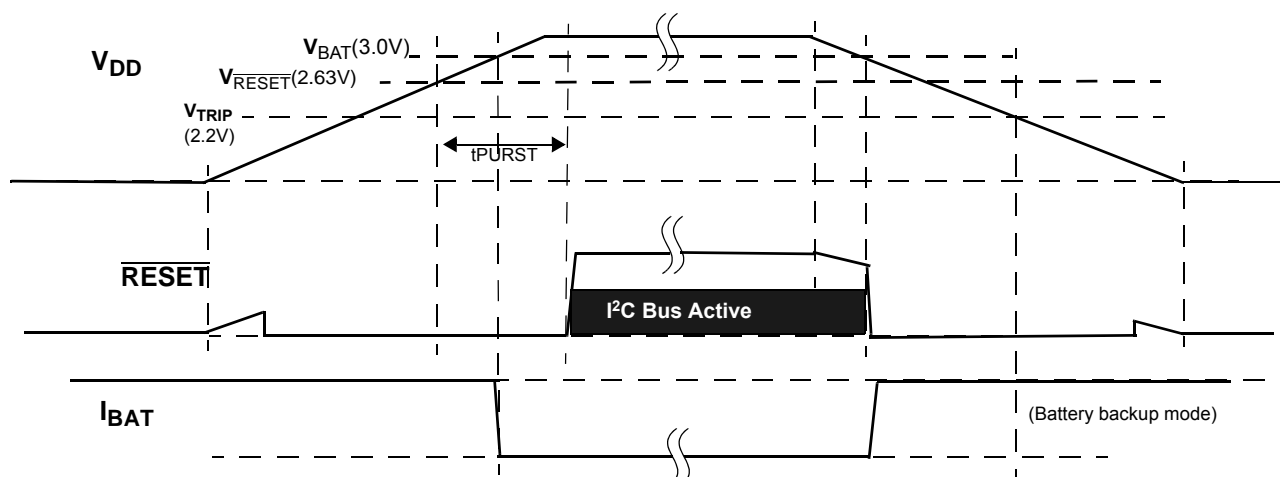

FIGURE 30. RESET OPERATION IN MODE D
- Mode D - In this mode the selection bits indicate switchover to battery backup at $V_{DD} < V_{BAT}$, and no I²C communications in battery backup. This mode is unique in that there is I²C communication as long as V_{DD} is higher than V_{RESET} or V_{BAT} , whichever is greater. This mode is the safest for guaranteeing I²C communications only when there is a Valid V_{DD} . (see Figure 30)